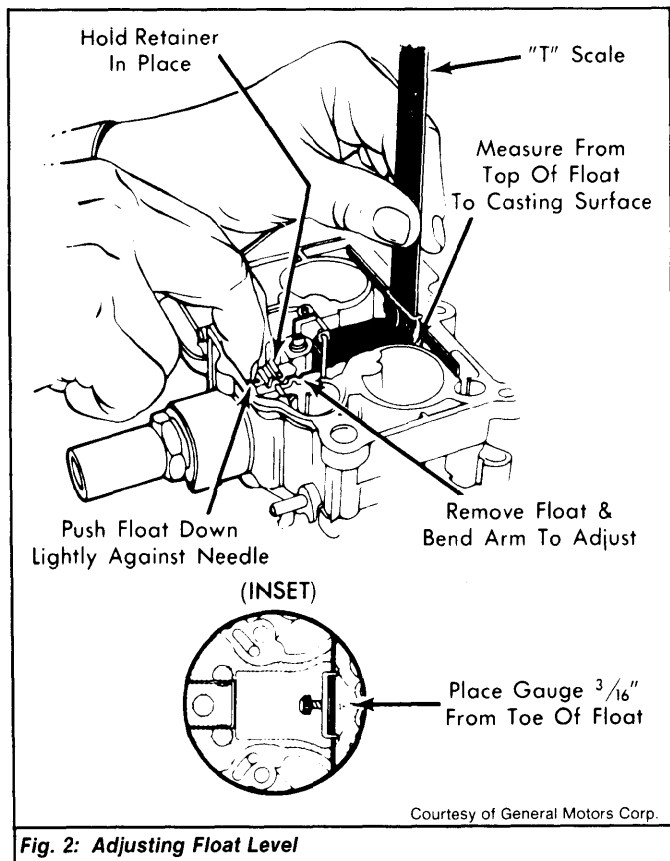

Fig. 2: Adjusting Float Level
- 1) Remove air horn and gasket from float bowl. Hold float retainer down firmly. Lightly push float down against needle. See Fig. 2.